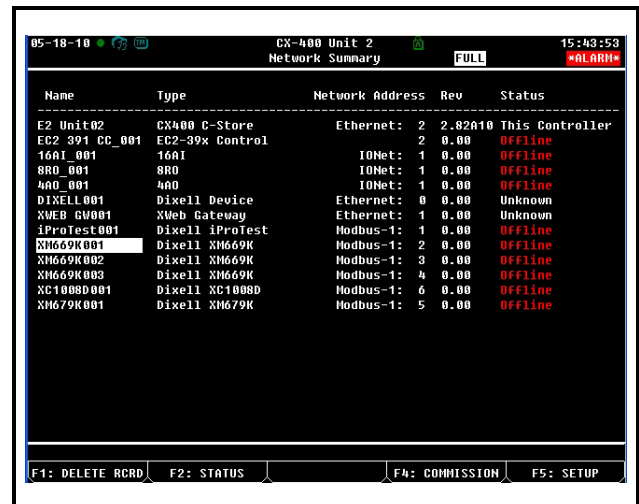

Figure 18-8 - Network Summary Screen
- When finished, press **Esc** to return to the *Network Setup* menu, then press **F1** - **Network Summary** (Figure 18-8). Locate the devices you set up, and look at each device's status in the **Status** field. You will see one of the following messages: